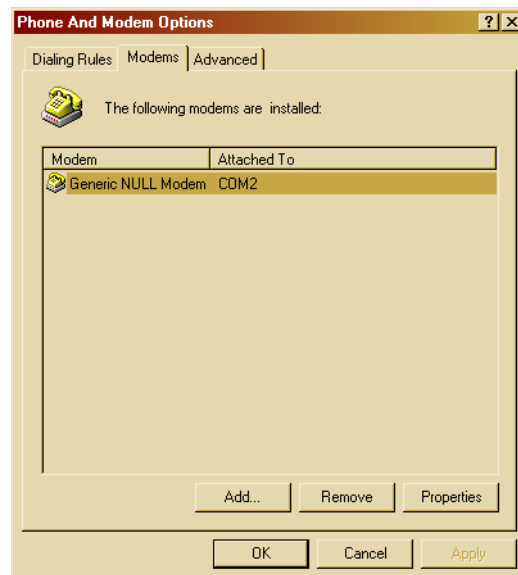

Figure 3 - 7 Phone and Modem options
16. In the **Generic NULL Modem Properties** window on the **General** tab – click the **Maximum Port Speed** drop-down menu and select the maximum baud rate setting (Figure 3 - 8).